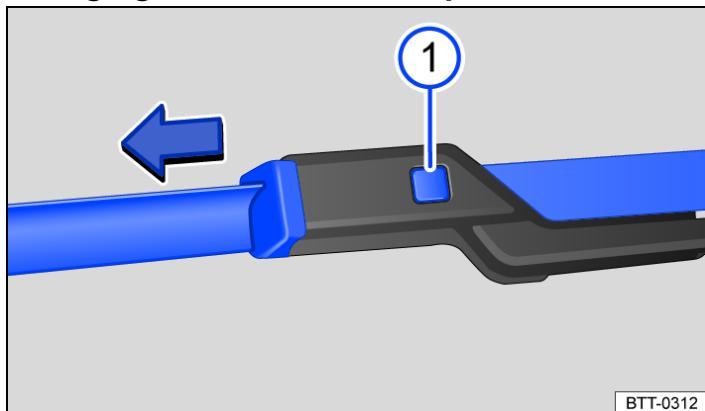

Fig. 1 Changing the windscreen wiper blades.
3. Press and hold the release button and simultaneously pull off the wiper blade in the direction of the arrow → *Fig. 1* 1.